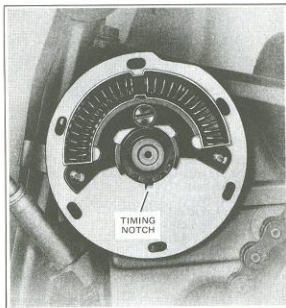

Figure 4-14. Timing Shifter Notches
Rotate adapter plate until timing notch (Figure 4-14) in adapter plate, located at bottom of shifter gear hole, lines up with notch between two shifter gear teeth. Make alignment exact, then tighten adapter plate bracket screw (14).